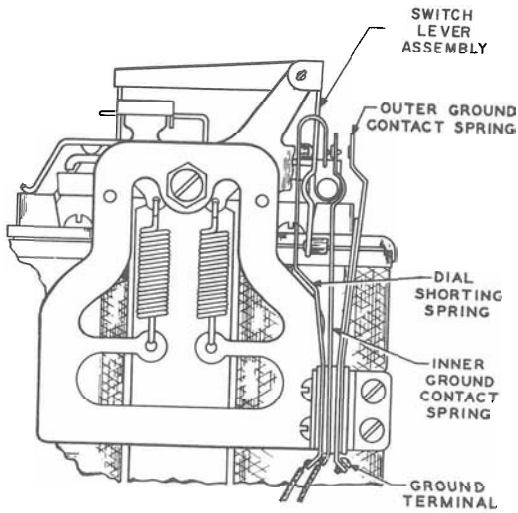

Fig. 58—D-96590 Dial Shorting Relay, 3-Spring (Guard Cut Away)
6.109 Refer to Fig. 58 and 59 for spring arrangements.
6.112 With coin trigger and operating arm in normal unoperated positions, dial shorting contact springs (Fig. 58 and 59) should have perceptible follow. With coin trigger tripped, they should be open; judge visually.